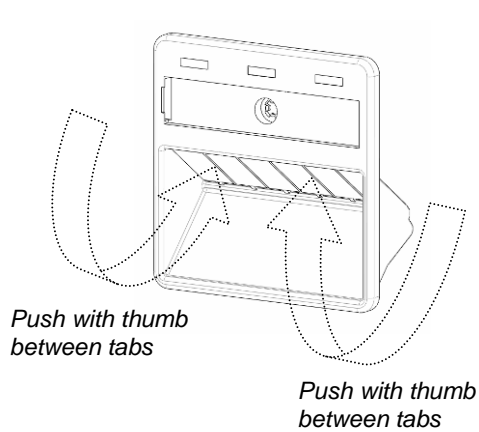

Fig. 2
4.1 First step is to break out and remove the tabs of the 50x50 faceplate which are in the position where the connectors are going to be placed (remove two adjacent breakable walls - *tabs* - per each connector to be assembled) - see fig. 2.